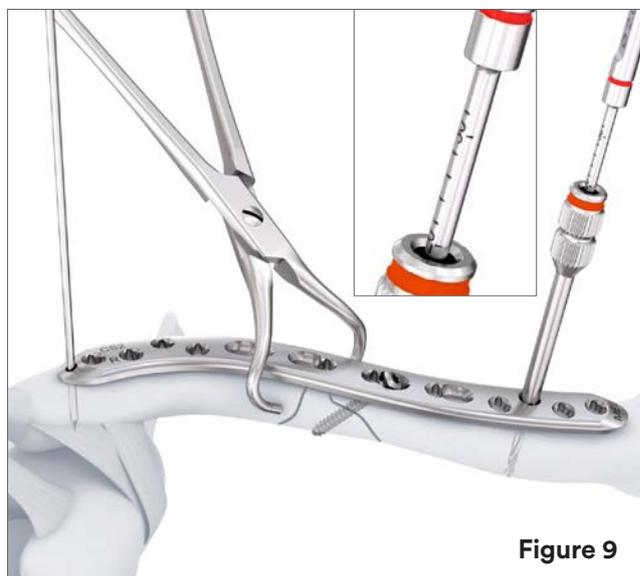

Figure 9
03.133.008	Threaded Drill Guide 2.0 mm, f/Screw 2.7 mm, f/VA and LCP™ (Figure 9)
Screw the threaded guide 2.0 mm into the screw hole, perpendicular to the plate, until fully seated (Figure 9). To ease threading, engage the drill guide with the screw hole by making a quarter turn counterclockwise until the starting thread of the drill guide engage the threads of the screw hole. Turn clockwise once the threads are fully engaged.
Use the drill bit Ø 2.0 mm to drill to the desired depth. Drill bit (03.133.100) is calibrated so that depth measurements can be read directly from the drill bit shaft when used with the corresponding drill guide (03.133.008) (Figure 9).